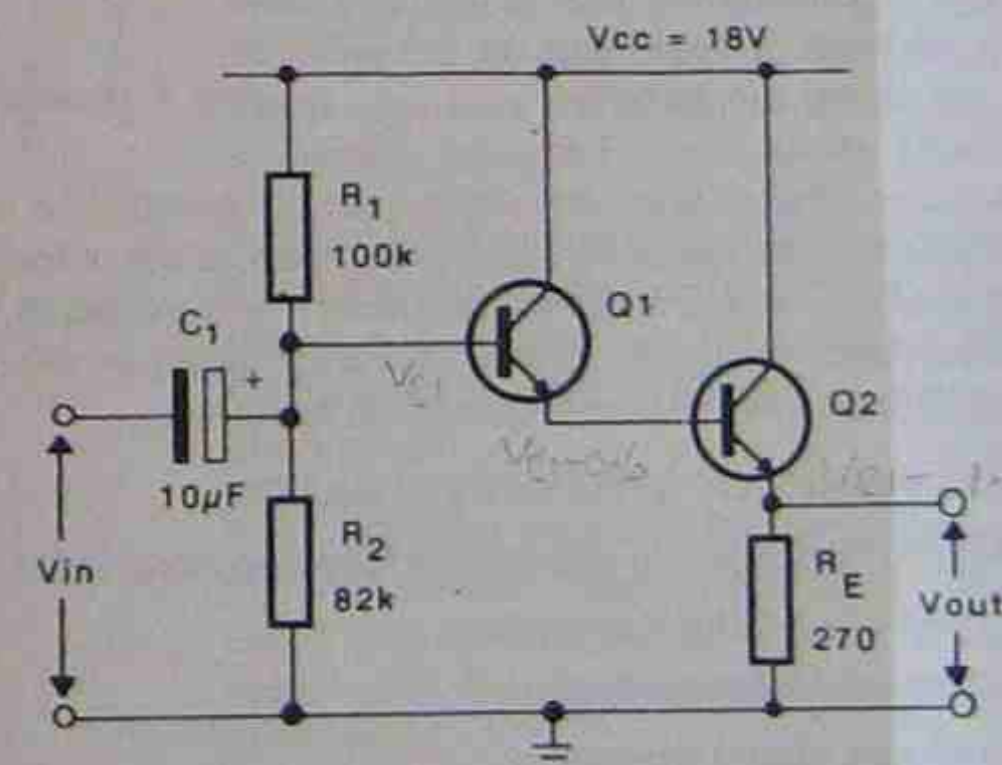

Fig.2
- For the circuit of Fig.2, calculate: